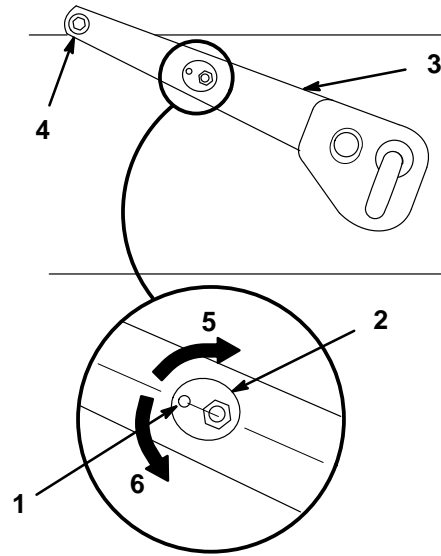

Figure 19
1. Check to see that both adjustment cams are oriented with the indicator toward the pivot point at the rear of the tractor (Fig. 19).